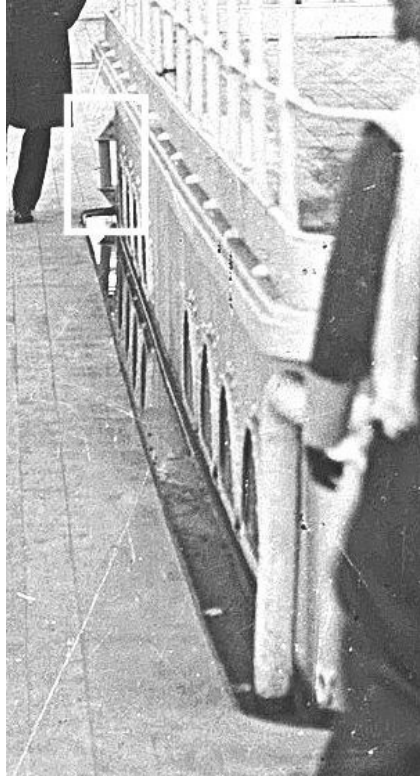

Figure 3
4. There are two additional roller fairleads that have a limited special purpose. In Figure 3 we can see the port roller fairlead for the hauling end of the boat falls located on the forward, port corner of the raised roof over *Titanic's* first-class smokers room. These roller fairleads were only for the hauling end of the fall of the aft end of boats #15 and #16. They kept the rope from fouling the corner of the deckhouse.